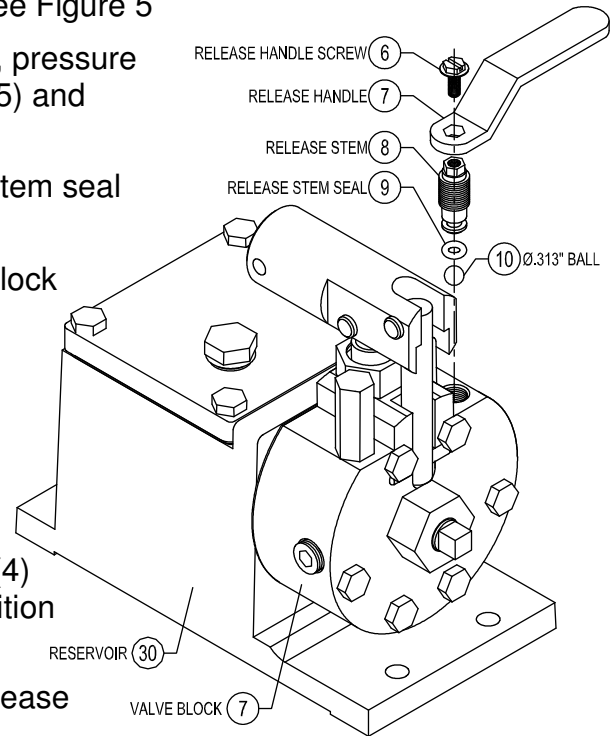

Figure 5
5.5 Replacement of release stem seal (6): See Figure 5
- 5.5.5 Position pressure release handle (4) to be in recommended closed position as shown in Figure 5.